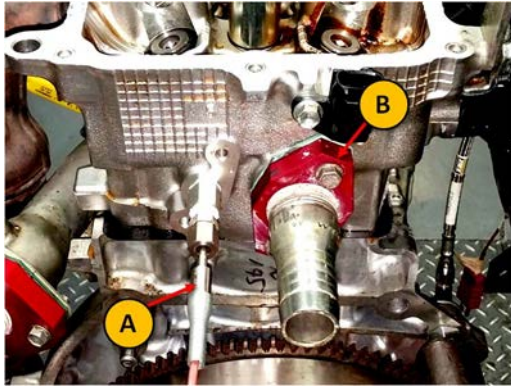

Figure 6
10. Mount the compressor load arm on the fulcrum rod. Use the notch on the lever arm that is furthest away from the handle, (D) in Figure 6. The lever arm from the fulcrum to the connection to the load arm should be approximately 100mm. Ensure the load bearing surface of the load arm is making even contact with the top surface of the valve spring retainer (inset) for intake position 1 (closest to the front of the engine). In this configuration, the load arm should be applying even force normal to the top surface of the retainer.
Remove the OHT engine coolant out hose barb adapter plate and Coolant out thermocouple. Refer to figure 6: